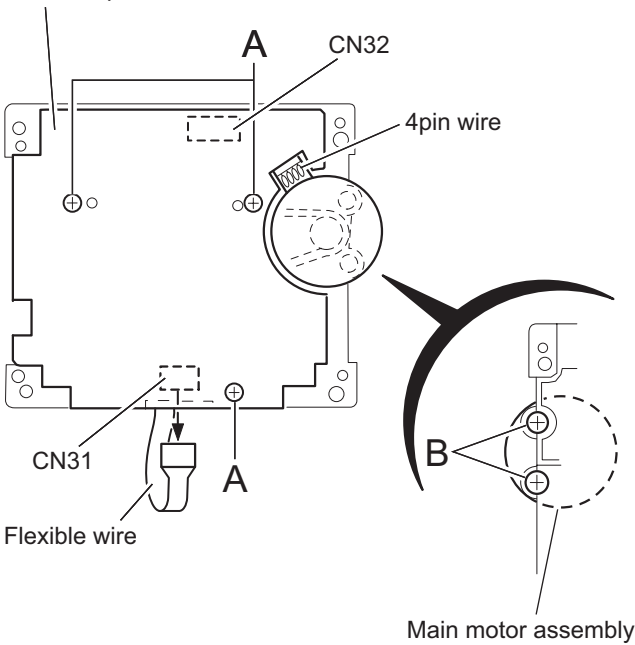

Fig.4
3.3.2 Removing the head amplifier & mechanism control board (See Fig.4)
3.3.3 Removing the main motor (See Fig.4~7)